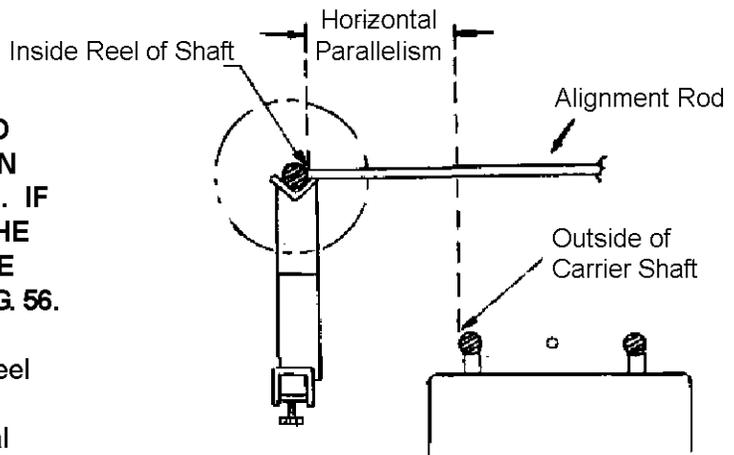

FIG. 50
- E. Move the alignment gauge to the left side of the reel carefully retracting the indicator rod so as not to damage or change setting. Set indicator rod on the same position on the reel as on the other side, that is 1" from the end and centered on the shaft. See FIG. 50. Now read the dial indicator to determine the distance the reel is out of position.